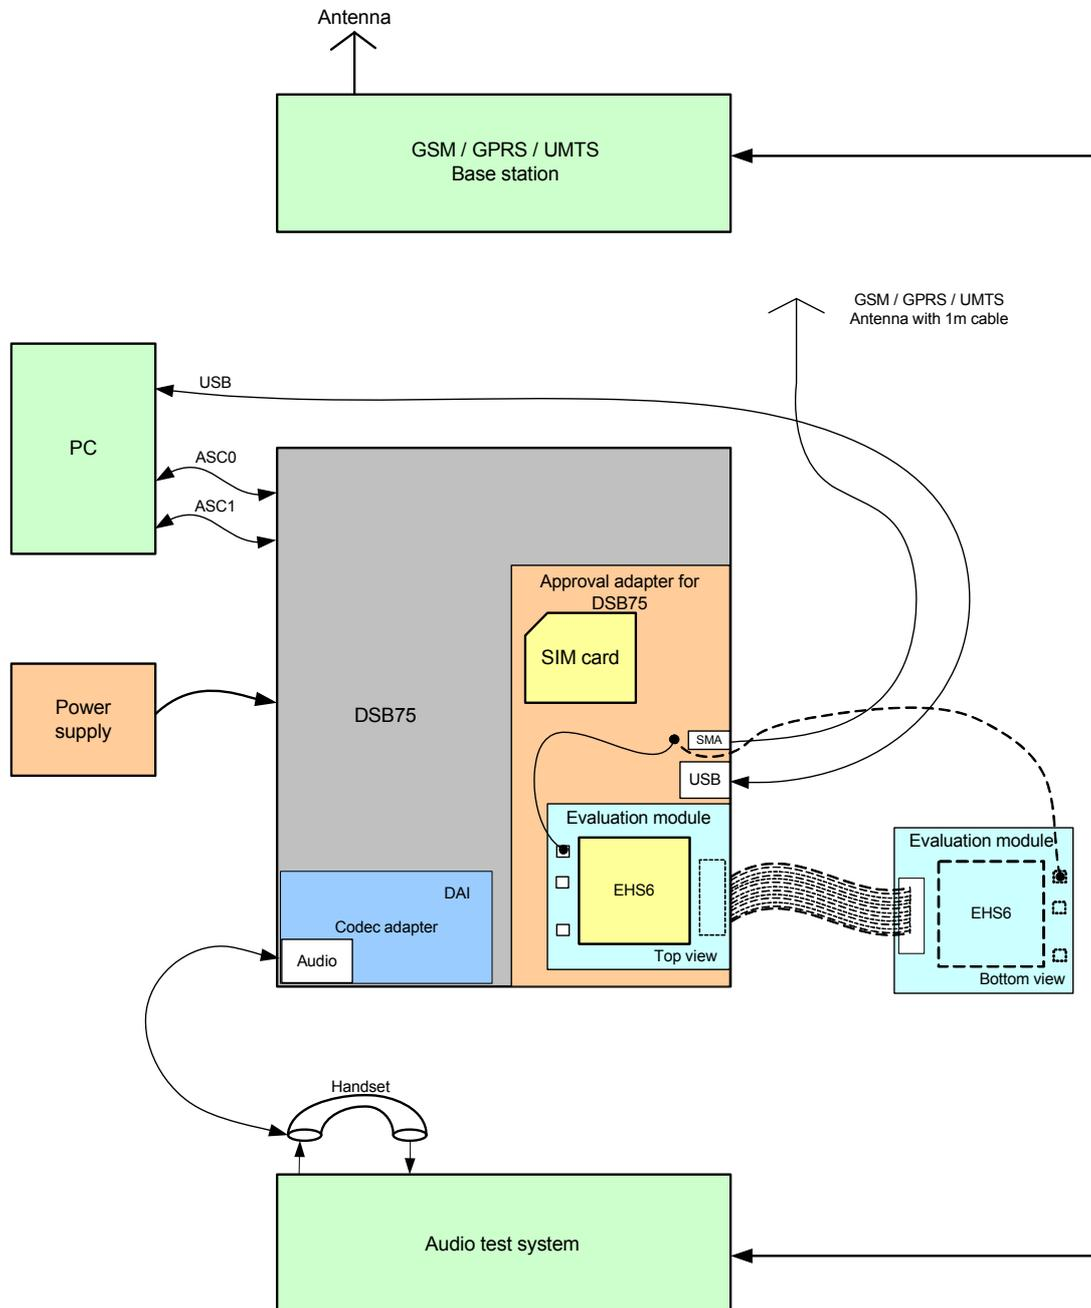

Figure 9: Reference equipment for Type Approval
1. For RF performance tests a mini-SMT/U.FL to SMA adapter with attached 6dB coaxial attenuator is chosen to connect the evaluation module directly to the GSM/UMTS test equipment instead of employing the SMA antenna connectors on the EHS6-DSB75 adapter as shown in Figure 9. The following products are recommended: